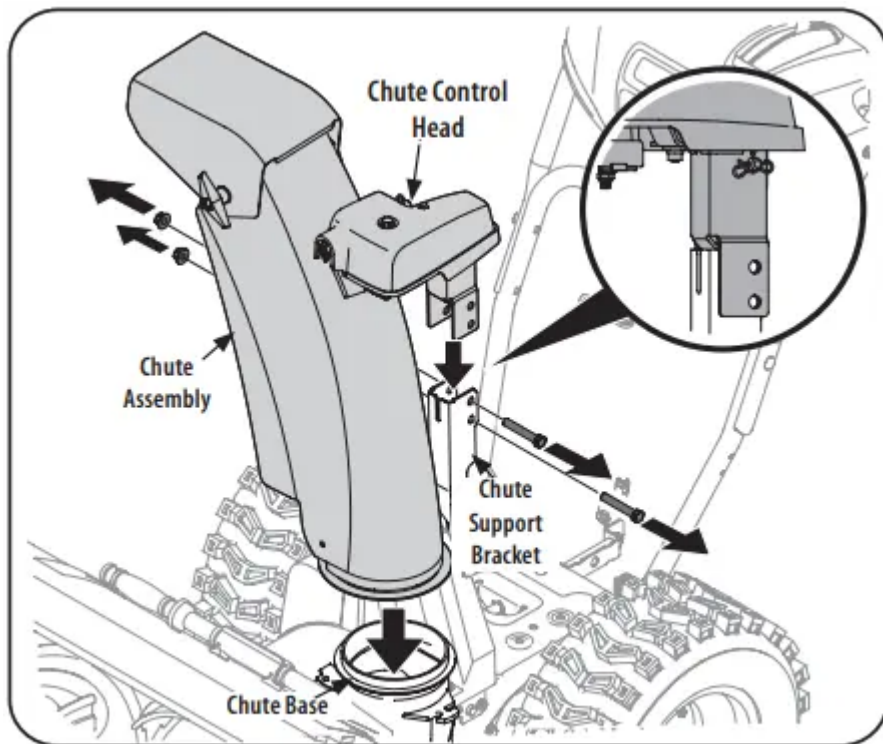

Figure 27
1. Remove lock nuts and hex screws from chute support bracket (this will require two wrenches). See Figure 27.
2. Place chute assembly onto chute base and chute control head onto chute support bracket. See Figure 27